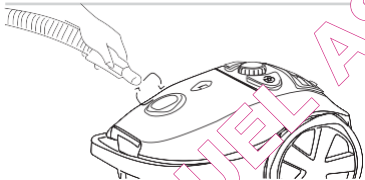

Figure 2 Fitting the hose to the vacuum cleaner
1. Rotate the hose connector into the hose opening on the motor unit to the right (see Figure 2). To remove the hose, rotate the connector to the left and pull the connector from the hose opening.